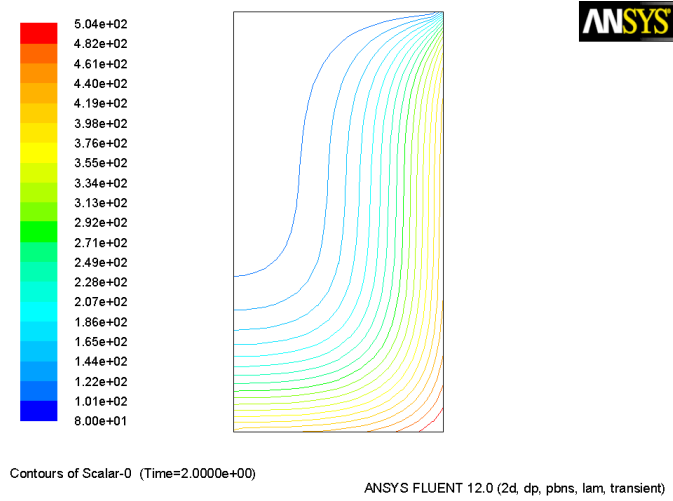

Figure 6: Contours of ϕ at $t = 2$ s
2. Similarly, display contours of ϕ at $t = 2$ s, $t = 3$ s, and $t = 4$ s reading appropriate data files (Figures 6–8).